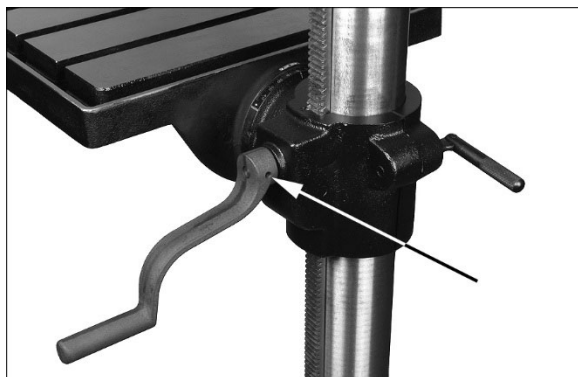

Figure 6-1: installing crank handle
2. Install crank handle on shaft of table bracket, and tighten set screw with 3mm hex wrench. (Figure 6-1)